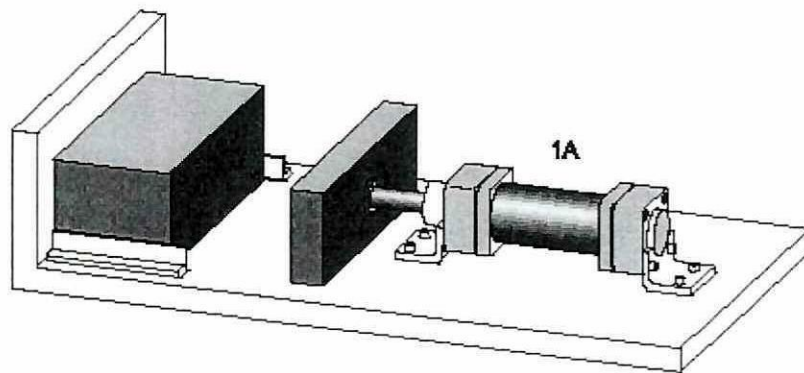

Figure Q3.1
- Q3.** (a) List **three (3)** characteristics of directional control valves. (3 marks)
- (d) **Figure Q3.1** illustrates a process of clamping a workpiece which is to be controlled by either of two push buttons. A third push button is to release the clamp. Additional criteria of the process are the clamp can be released only when the clamping cylinder is fully advanced, the clamping speed is to be slow and adjustable, and the unclamping speed is to be maximized as fast as possible. Develop an electro-pneumatic control system to carry out this process. Use a single solenoid directional control valve to control the double-acting cylinder, which acts as a clamping cylinder.